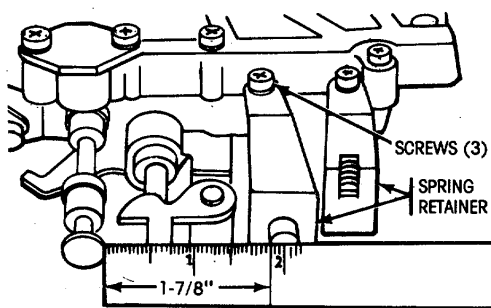

Figure 5-13. Measuring Spring Retainer Location
- (a) Measure the distance between the manual valve (valve 1-low position) and line pressure adjusting screw (figure 5-13). This measurement must be 1-7/8 inches; correct by loosening the spring retainer screws and repositioning the spring retainer. The regulator valve may cock and hang up in its bore if the spring retainer is out of position.